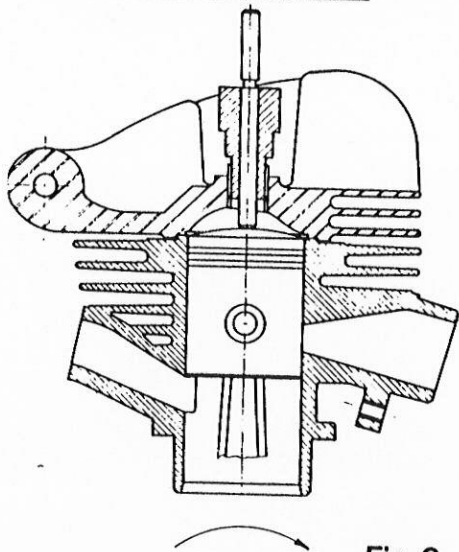

Fig. 9
- place gauge pin in dummy plug, bring piston to T.D.C. (fig.9) and ensure that the lower groove corresponds with the top surface of the dummy plug (the piston must touch the pin so tighten or loosen the dummy plug until the lower groove of pin is in line as above)